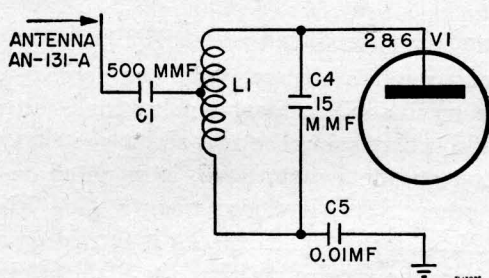

Figure 58. Antenna AN-131-A, coupling circuit.
b. ANTENNA AN-131-A. This antenna is 10 feet, 8 inches long and acts as a vertical radiator resonant at the mean frequency (44 mc) used by the radio receiver and transmitter. It is coupled to the plate tank circuit of the final amplifier by capacitor C1 (fig. 58) which has a value of 500 mmf and offers little reactance at the frequencies used. The function of capacitor C1 is to keep the d-c plate voltage present on L1 from appearing on the antenna proper.